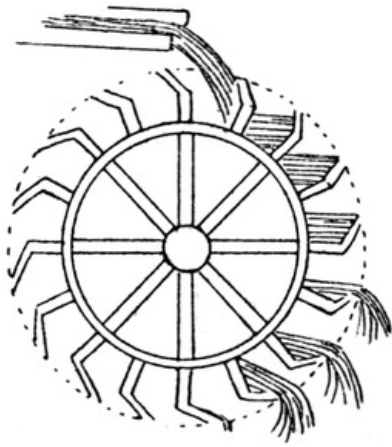

FIG. 313
**A Water-wheel** (Plate XII). *The Wheel.* Cut two discs of cardboard, 4 inches in diameter. Make holes in the centre, glue them to a small reel (about an inch high), and pass a round rod through for an axle. This wheel is an overshot water-wheel—that is, one that receives the water *shot over* the top, and must be fitted with 'buckets.' These receive the water at the top of the wheel and retain it until they reach the lowest point (see Fig. 313).
To make the toy technically correct, the buckets should rest against a solid wheel contained within the two outer ones, as in Fig. 313, so that no water can run down toward the centre of the wheel. This can be easily managed, if desired, in the following manner: